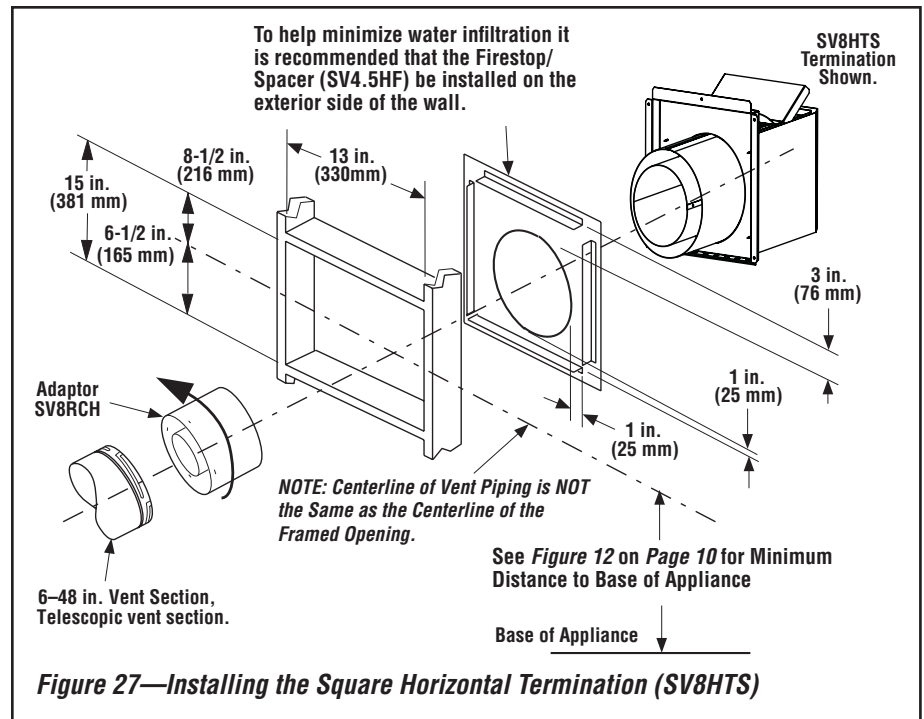

Figure 27—Installing the Square Horizontal Termination (SV8HTS)
K. Attach termination adaptor—Attach the adaptor (adaptor—SV8RCH—provided with the termination) to the vent section or telescoping vent section), or elbow as shown in **Figure 27** in the same manner as any SV vent component (refer to **Step E on Page 17**).
L. Install Firestop/Spacer at exterior wall—When using the square termination, install SV8HF Firestop/Spacer over the opening at the exterior side of the framing, long side up, with the 3" spacer clearance at the top as shown in **Figure 27**, and nail into place.